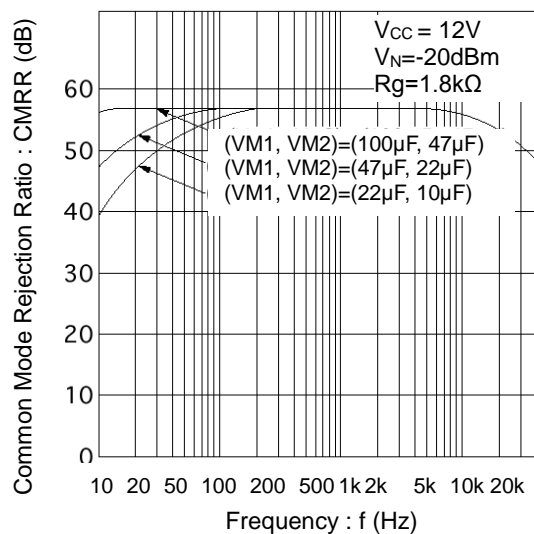

Figure 10. Common Mode Rejection Ratio vs Frequency
14. Setting the capacitor value to twice or half will make CMRR +6dB or -6dB respectively (Figure 10) in the low frequency range.